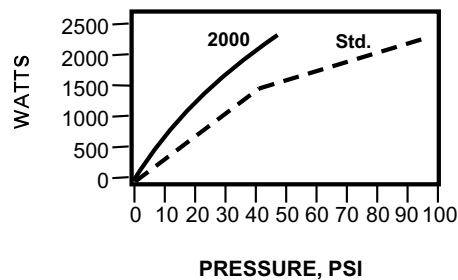

Figure 4. Power Output vs. Pressure
- **Force Requirement** - Because of constant amplitude, *significantly* less force, or conversely, less stack amplitude, is required to accomplish a weld. (Figure 4.)